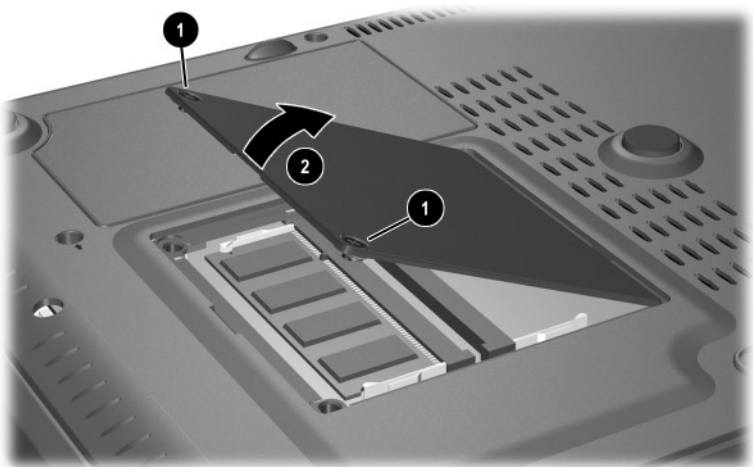

Figure 5-7. Removing the Memory Expansion Compartment
3. Loosen the two PM2.5 × 4.0 screws ❶ that secure the memory expansion compartment cover to the notebook (Figure 5-7).
4. Use the notch on the left side of the cover to lift the cover up and swing it to the right ❷.